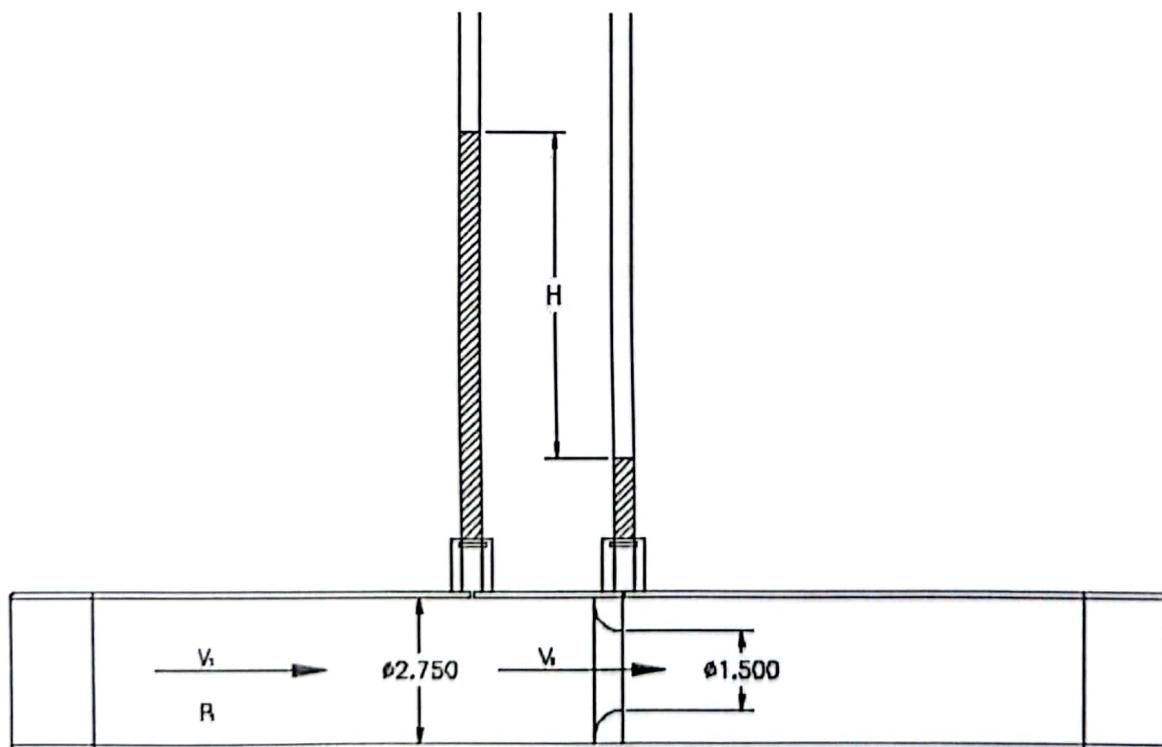

Figure 1: Detailed Flow Nozzle Meter Model Diagram
- $A_2$ : area of flow nozzle ( $\text{ft}^2$ ) (Fig. 1) =  $0.01227 \text{ ft}^2$